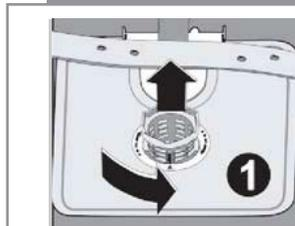

fig 9
2. Turn the microfilter anticlockwise and then lift it out as in figure 9.